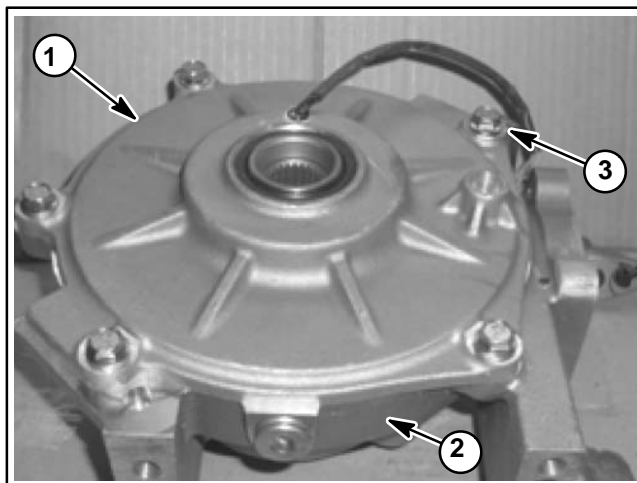

Figure 12
6. Remove the five (5) flange head screws that secure cover plate assembly to gear case. Note location of plug clip for assembly purposes (Fig. 12). Carefully remove the cover plate from the gear case by lifting straight up.